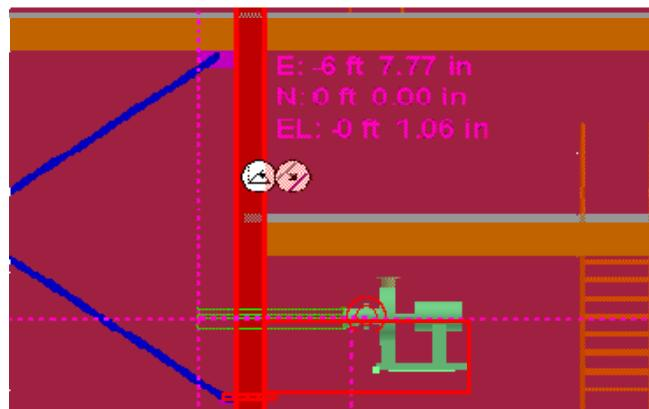

Figure 14: Projection Line Indicating 2 ft Offset from Column
15. Move the cursor over the **Column** (*Column shown below in Figure 14*) until the offset glyph appears, as shown in Figure 14 and move slowly away from **Column** until perpendicular **projection line** is displayed .